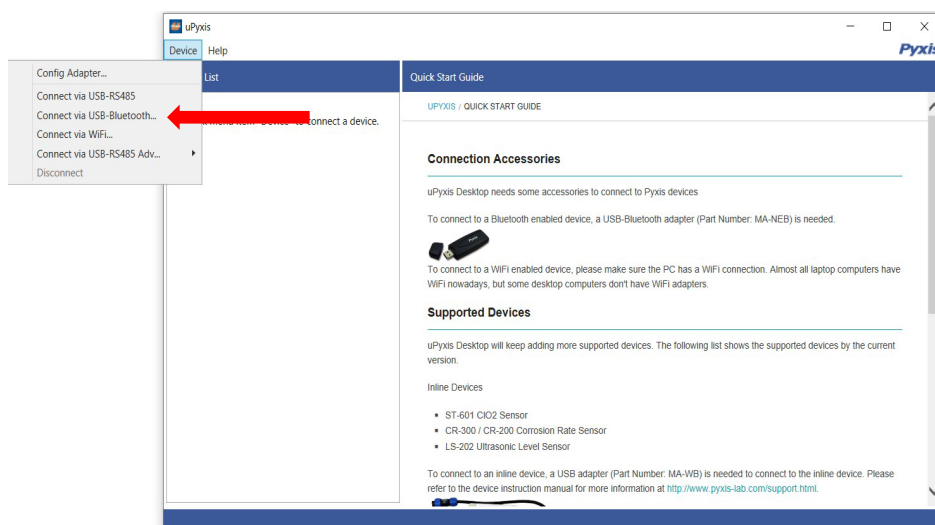

Figure 15.
4. On **uPyxis®** Desktop App, click Device → **Connect via USB-Bluetooth** (Figure 15).